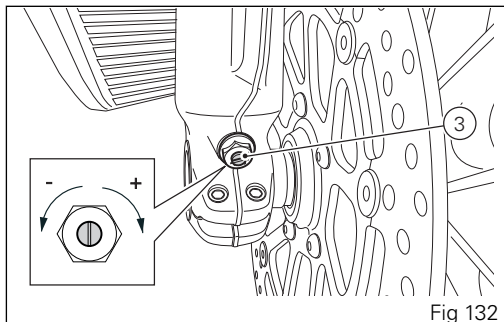

Fig 132
- 3) to adjust the compression damping (Fig 132).